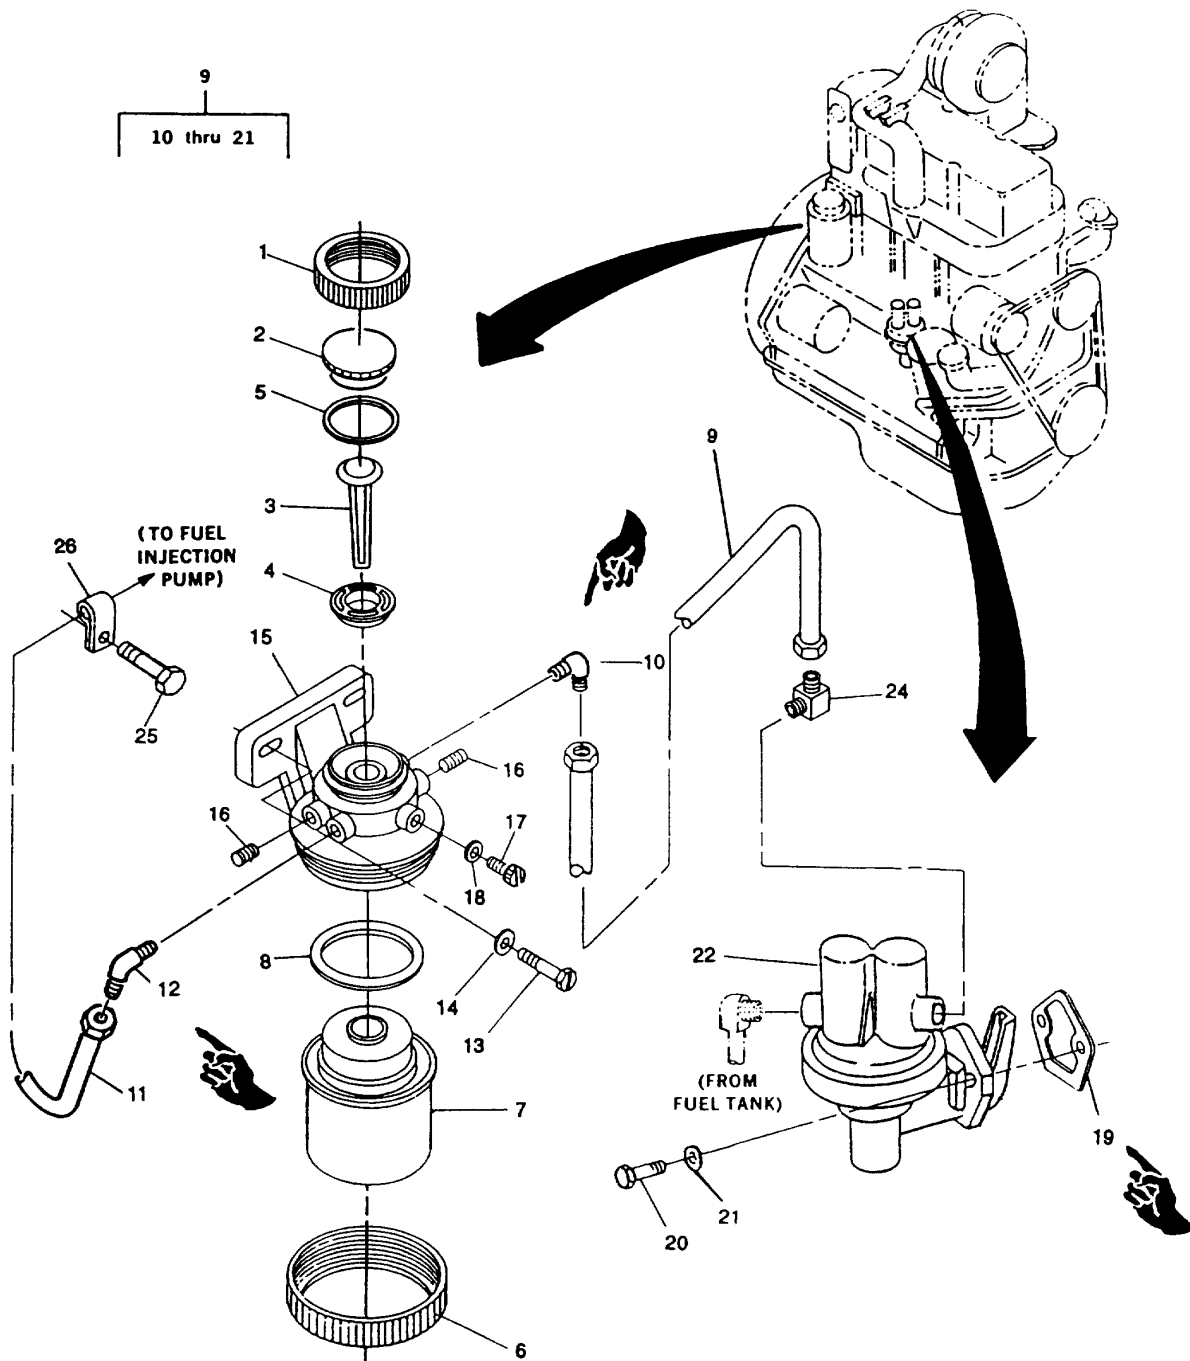

FIGURE 3-40. Fuel Filter and Fuel Supply Pump
- a. Loosen air bleed screw (17, FIGURE 3-40) on front of fuel filter.
- b. Operate primer lever of fuel supply pump (22) until fuel flow is free from air bubbles. Tighten bleed screw securely, continue operating hand primer until pumping action is not felt. Push hand primer inward (toward block) as far as it will go.
- a. Remove cap retaining ring (1, FIGURE 3-40), header (2), volume plug (3), and prefilter (4). Inspect seal (5) for damage and replace as necessary. Install new prefilter (4), seal (5), volume plug (3), header (2), and cap retaining ring (1).
- b. Loosen and remove retaining ring (6) and filter element (7) from filter head. Discard packing (8). Install new filter element (7) with new packing (8) and secure with retaining ring (6).
- a. Disconnect fuel line (9, FIGURE 3-40) from elbow (10) at filter head (15). Cap openings.
- b. Disconnect fuel line (11) from elbow (12) in outlet of filter head. Cap openings.
- c. Remove two capscrews (13) and washers (14) securing filter head (15) to engine block; remove filter assembly.
- b. Remove two elbows (10 and 12, FIGURE 3-40) from filter head (15).
- c. Remove bleed screw (17) and preformed packing (18). Discard preformed packing (18).
- d. Install new preformed packing (18) and bleed screw (17).
- a. Position filter head (15, FIGURE 3-40) on engine mounting and secure with two capscrews (13) and washers (14).
- b. Remove caps and connect fuel line (11) to elbow (12) in outlet of filter head.
- c. Remove caps and connect fuel line (9) to elbow (10) in inlet of filter head.
- a. Disconnect fuel line (9, FIGURE 3-40) from elbow in fuel supply pump (22) outlet. Cap openings.
- c. Remove two capscrews (20) and washers (21) securing fuel supply pump (22) to engine block. Remove pump and gasket (19); discard gasket (19).
- e. Remove elbow (24) from fuel supply pump outlet.
- a. Install elbow (24, FIGURE 3-40) in fuel supply pump outlet.
- b. Position new gasket (19) and fuel supply pump (22) on engine block and secure with two capscrews (20) and washers (21).
- d. Remove caps and connect fuel line (9) to elbow (24) in fuel supply pump outlet.
- a. If necessary, remove fuel line (11, FIGURE 3-40) by disconnecting it at fuel injection pump using two wrenches. Remove capscrew (25) securing clamp (26) and remove fuel line.
- b. If necessary, remove fuel line (9) by disconnecting it at elbows (10 and 24).